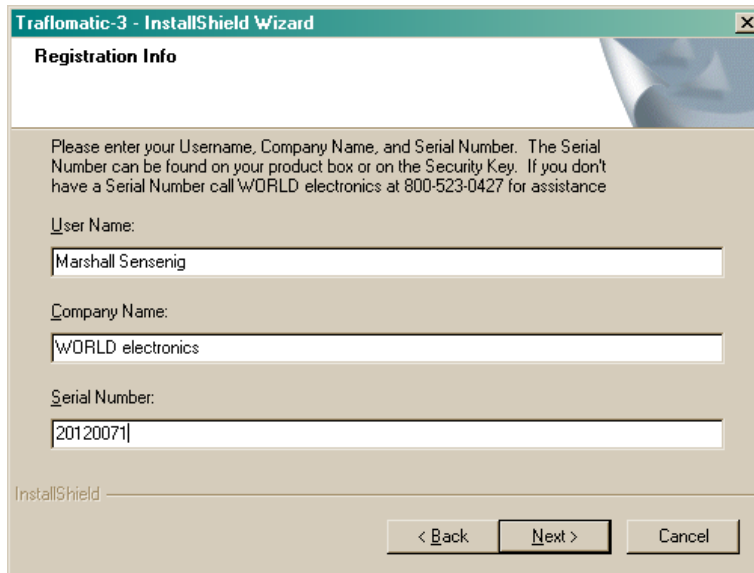

Figure 8
4. After entering all the information into the 3 separate fields, the **Next** pushbutton will appear allowing the installation to continue (Refer to Figure 8). Select **Next** to continue with the installation.